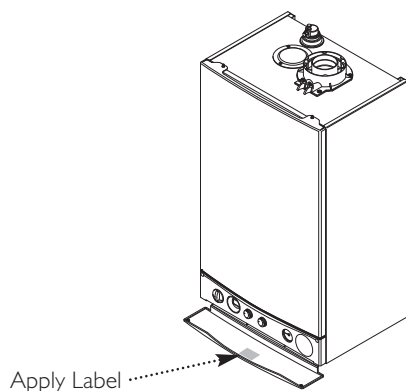

Fig. 12
4. Apply the SAP label to the boiler door (Fig. 12) and continue with the installation and commissioning procedure.